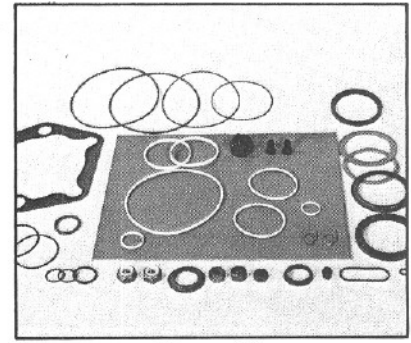

Figure 89
- Ross Gear does provide individual seals, seal rings, and gaskets, as well as complete seal kits (FIG. 89). These parts should be available to most OEM parts distributors. (Contact your local dealer for availability.)